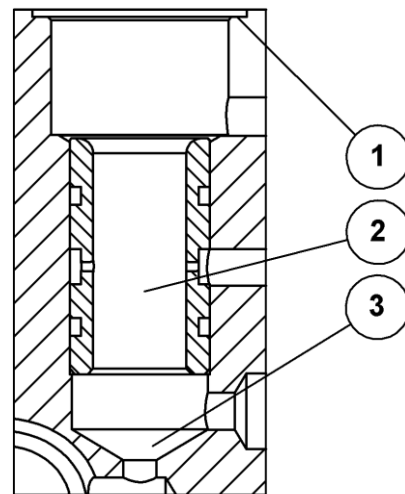

Fig. 6-10 Pressure plunger-bore
- An alcohol soaked rag is used to clean the plunger-bore (Fig. 6-10 item 2) in the manifold.
- Inspect the pressure plunger seat (Fig. 6-10 item 3) and the O-ring (Fig. 6-10 item 1) for damage. A dental style mirror is very useful to aid in the inspect the pressure plunger seat.